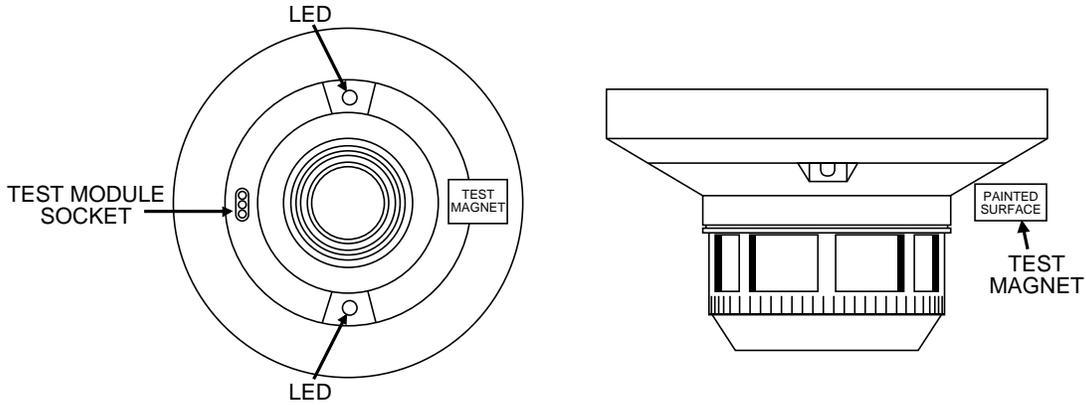

Figure 2. Views showing position of test magnet
1. Place the magnet against the cover opposite the test module socket to activate the test feature (see Figure 2).